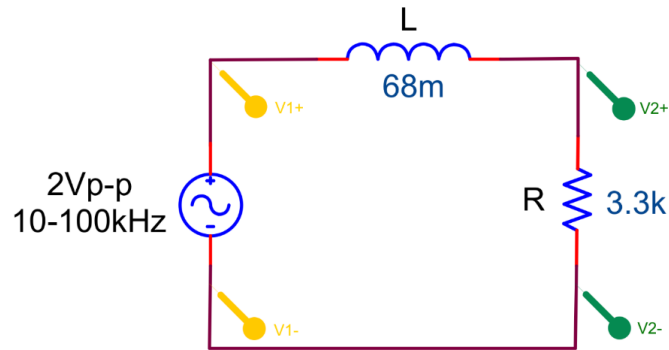

Figure 13.7
- Construct the circuit of Figure 13.7. Use the oscilloscope to measure the magnitude and phase angle (with respect to the input) of v_2 . Make sure that the input remains at 1V as you vary the frequency. Use your measurements to plot the magnitude and phase angle versus frequency.
3. Use the SPICE AC analysis to plot the magnitude and phase angle of V2 versus frequency for Figure 13.7. Compare these to your experimental results.